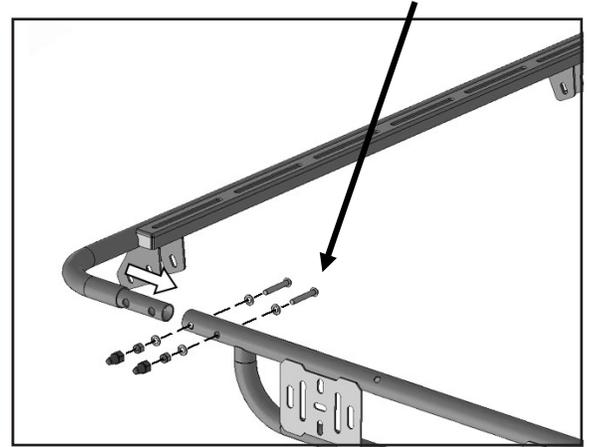

FIGURE 17
16. Select the driver/left Side Rail. Attach the front of the Side Rail to the Front Loop with the included (2) 8mm x 50mm Button Head Bolts, (4) 8mm x 16mm Small Flat Washers and (2) 8mm Nylon Lock Nuts, **(FIGURE 17)**.